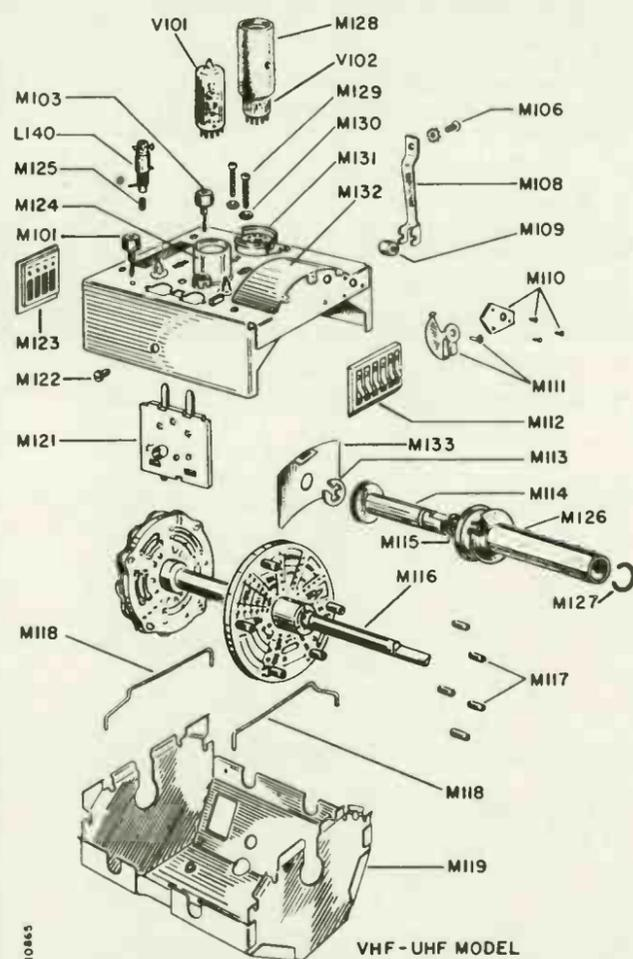

Figure 56. Exploded View of VHF Tuners 94E144-9, -22, -27 and -30.
The simplified circuitry and mechanical construction of these tuners make them relatively trouble-free and easy to service. Tuner voltages (B plus, AGC and heater) may be measured from terminals on top side of tuner. See figures 32 and 33. All components at the underside of the tuner can be serviced without the removal of the turret assembly. See exploded view of tuner, figures 56 and 57.
- Remove bottom cover shield M119. See exploded view of tuner, figures 56 and 57.